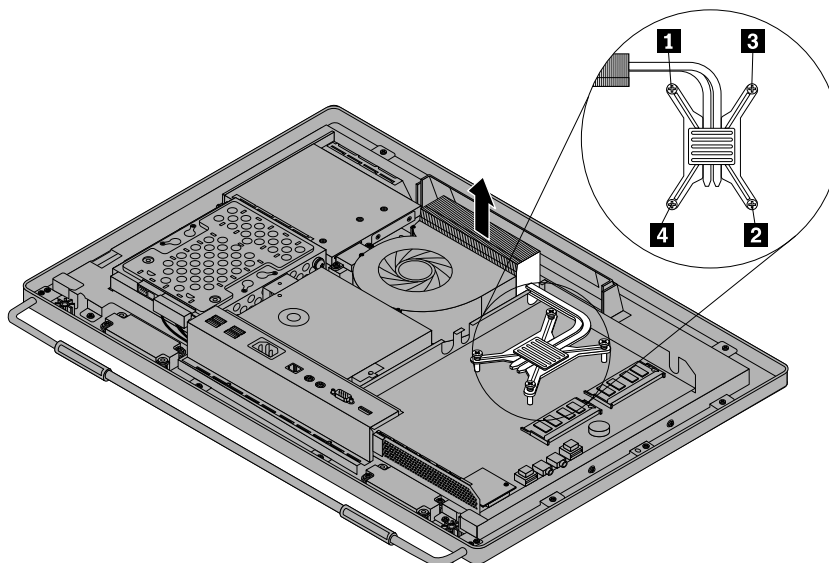

Figure 27. Loosing the four screws that secure the heat sink assembly to the system board
9. Follow the sequence **1**, **2**, **3**, **4** on the heat sink assembly to tighten the four screws to secure the heat sink assembly to the system board, as shown in Figure 27 “Loosing the four screws that secure the heat sink assembly to the system board” on page 90.